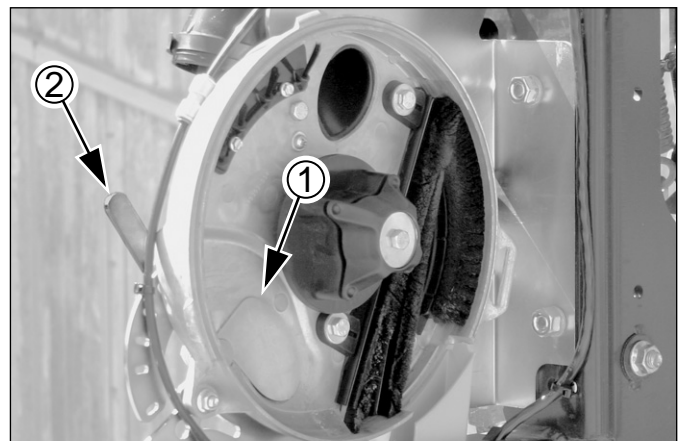

Figure 68
*Refer to Figure 68 on page 58*